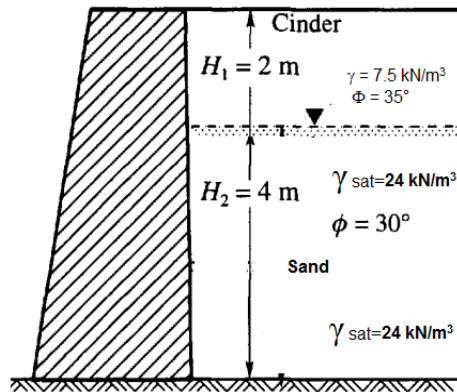

Figure 6: Retaining Wall
- a) A retaining wall of 6 m height, having 2m width at its top and 3m width at its base, retains a backfill made up of two strata as shown in **Figure 6**. Assume the backfill above the water table remains dry. State any assumption you have made.